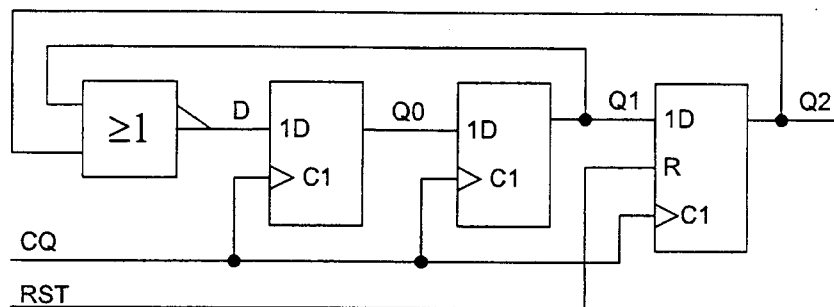

Figure 2.1
2. In the counter circuit of *Figure 2.1* one of the flipflops includes an asynchronous reset input which forces Q2 to zero whenever RST=1.
- (a) For the case RST=0, draw the state diagram for the circuit of *Figure 2.1* and draw a timing diagram showing the waveforms of the clock, CQ, and the outputs Q0, Q1 and Q2 for one complete cycle of the counter. [7]